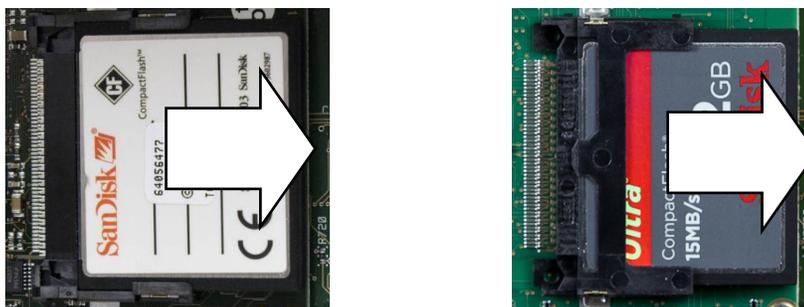

Figure 4-57: CF Card Removal – Original (left) and New (right) ETX
2. Position the ETX board over its connectors. Figure 4-57 shows two of the connectors, and Figure 4-58 shows a side view of the board resting on its connectors.